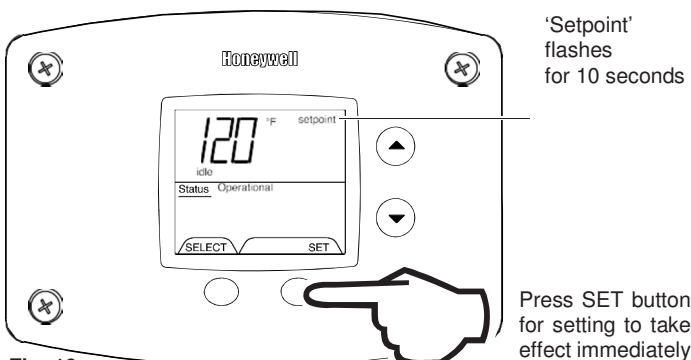

Fig. 16
3. Press 'SET' button for new setting to take effect immediately. 'Setpoint' will stop flashing. If the "SET" button is not pressed, the new temperature setting will take effect in approximately 10 seconds (Fig. 16).